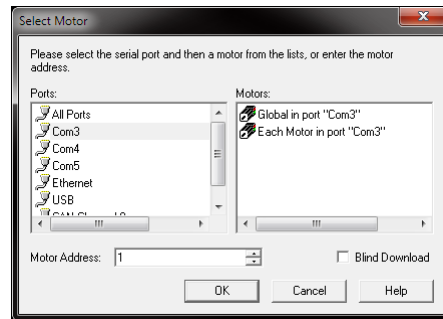

Figure 10: SMI Select Motor Dialog
- 16) You will now be shown the **Select Motor** dialog. Select the serial port you are using in the **Ports** list and then enter the number **1** in the **Motor Address** box as shown in Figure 10.